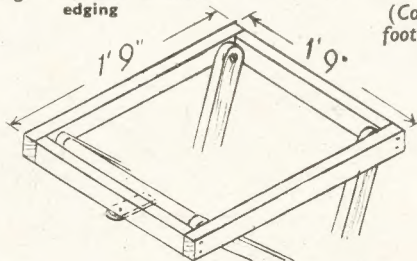

Fig. 2—Detail of top, and leg fixing
The frame for the table top, seen in Fig. 2, is made to the size given from strips of wood, 1 $\frac{1}{2}$ ins. wide and  $\frac{1}{2}$ in. thick. Join the frame at its corners with glue and nails, or a halved joint, as preferred. The frame (A) is then fitted with brass screws, as in the diagram, to the extreme right-hand end of the top inside.